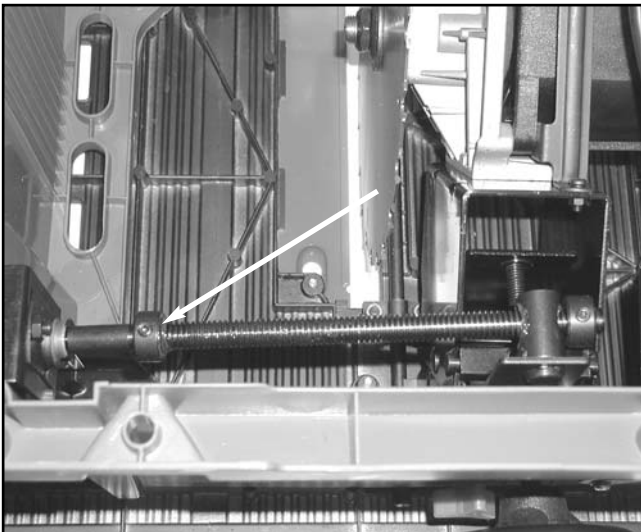

Figure 20. 45 degree stop collar.
- Advance the collar until it makes contact with the bracket . **Figure 20**.